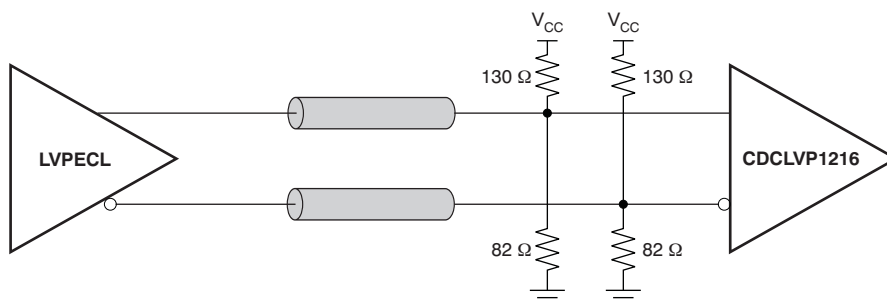
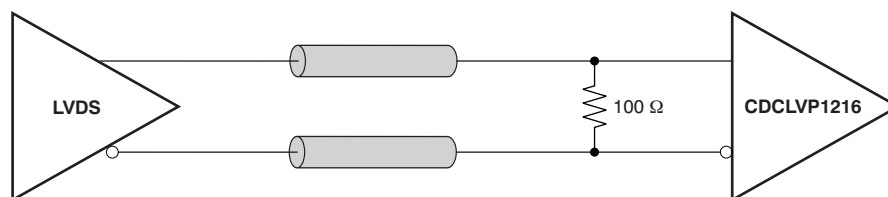

Figure 5. DC-Coupled LVPECL Input During Device Test
Figure 6. DC-Coupled LVDS Input During Device Test
(1) Figure 5 and Figure 6 show dc test setup. Figure 7 shows ac test setup.
- Corrected Figure 5 9